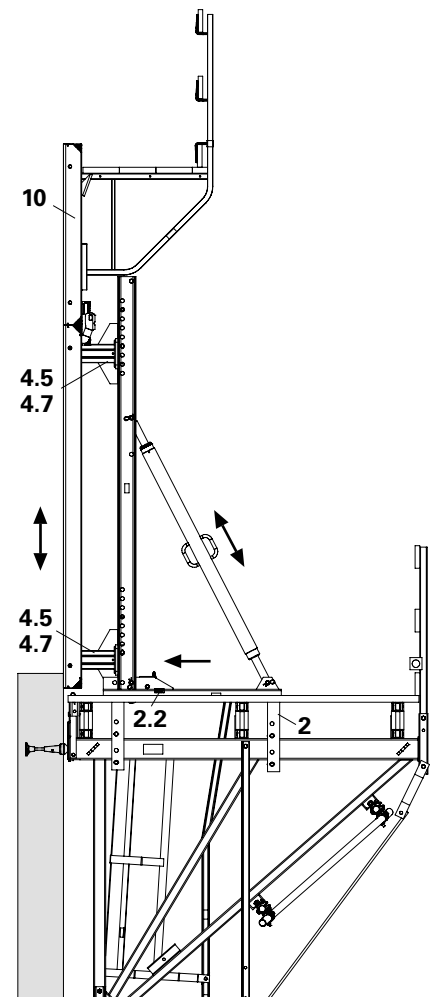

Fig. B2.22
5. Insert formwork unit (10) with MAXIMO Lifting Hook (10.6) into the Connectors CB (4.5) and secure using stirrup (4.7).
7. Move Carriage (2) with formwork forwards to the wall. Secure carriage with wedge (2.2).
8. Align formwork. (Fig. B2.22)